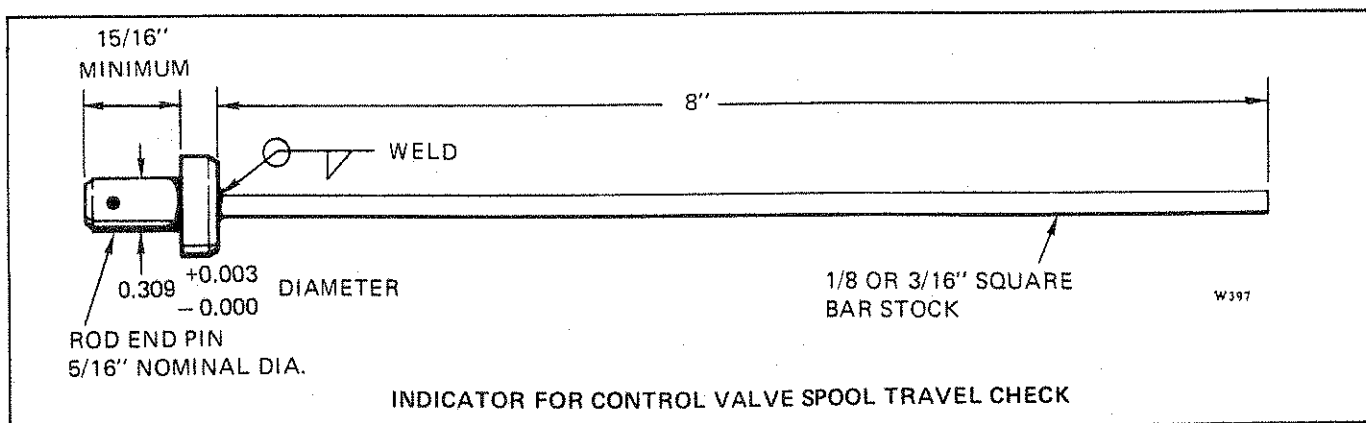

FIGURE 4-13. INDICATOR TOOL
m. Remove the rod-end pin, which is used to attach the control cable to the control valve spool, and insert the indicator special tool (see Figure 4-13) to connect control cable to spool.
- a. Install indicator special tool (see Figure 4-13) in place of the rod end pin which attaches control cable to end of control valve spool.